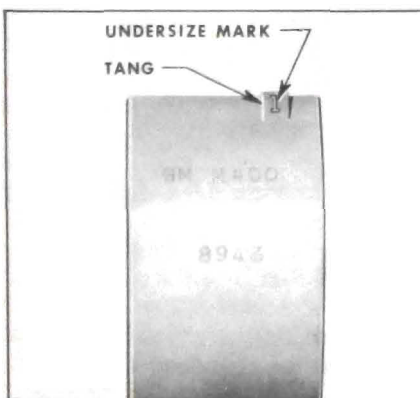

Figure 2-27—Location of Undersize Mark on Bearing Shell
7. If a new bearing is being selected, try a standard size, then each undersize bearing in turn until one is found that is within the specified limits when checked for clearance with Plastigage. NOTE: Each undersize bearing shell has a number stamped on outer surface on or near the tang to indicate amount of undersize. See Figure 2-27.
8. The described clearance with a new bearing is .0005" to .0025". If this clearance cannot be obtained with a standard size bearing, insert an undersize bearing and check again with Plastigage. NOTE: Each undersize shell has a number stamped on outer surface on or near the tang to indicate amount of undersize. See Figure 2-27.
7. Remove compression rings. Then remove oil ring by removing the two rails, spacer, and expander which are separate pieces in each piston third groove. See Figure 2-27.